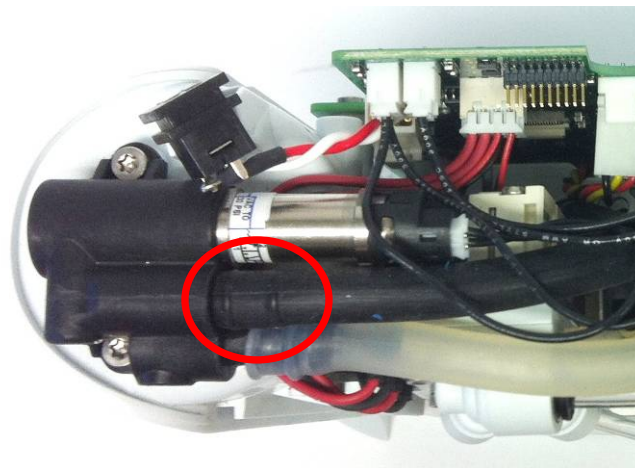

Figure 9: Exhaust T tube and feed waste manifold
1. Remove the exhaust T tube from both feed waste manifolds using a small flathead screw driver, if necessary (Figure 9). *If the plastic barb comes out of the manifold, it can be pressed back into the housing and new tube.*